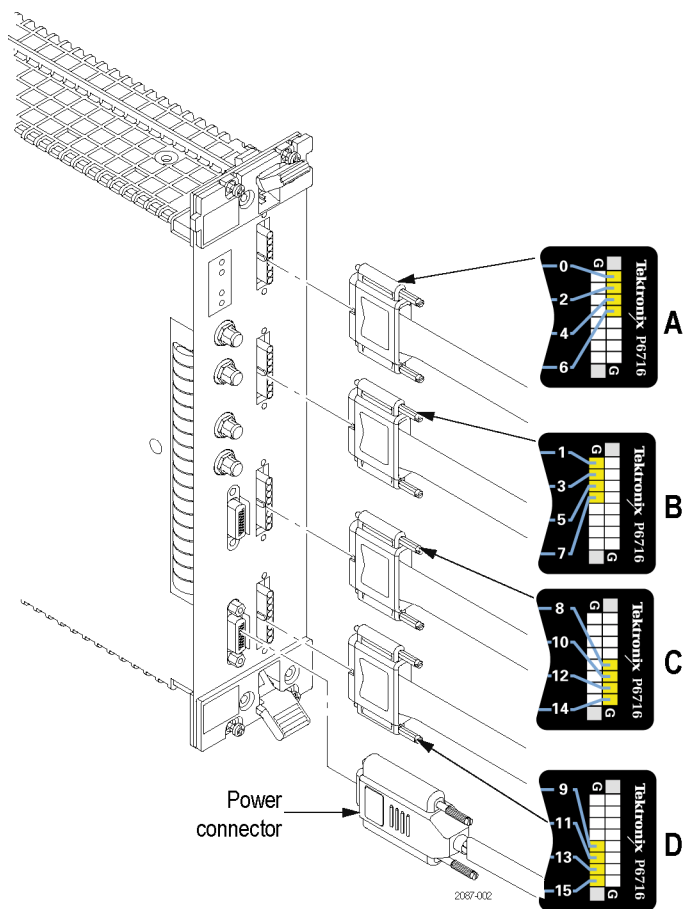

Figure 9: Connecting a probe to the TLA7S16 Logic Protocol Analyzer
1. Connect the module ends of the probe from the downstream data link to the logic protocol analyzer module that will acquire the downstream data. (See Figure 9 on page 15.)
- a. Plug the probe connector labeled 0, 2, 4, and 6 (channels) into the top connector on the module (A).
- b. Plug the probe connector labeled 1, 3, 5, and 7 (channels) into the second connector (B).
- c. Plug the probe connector labeled 8, 10, 12, and 14 (channels) into the third connector (C).
- d. Plug the remaining probe connector into the fourth connector (D) on the module.